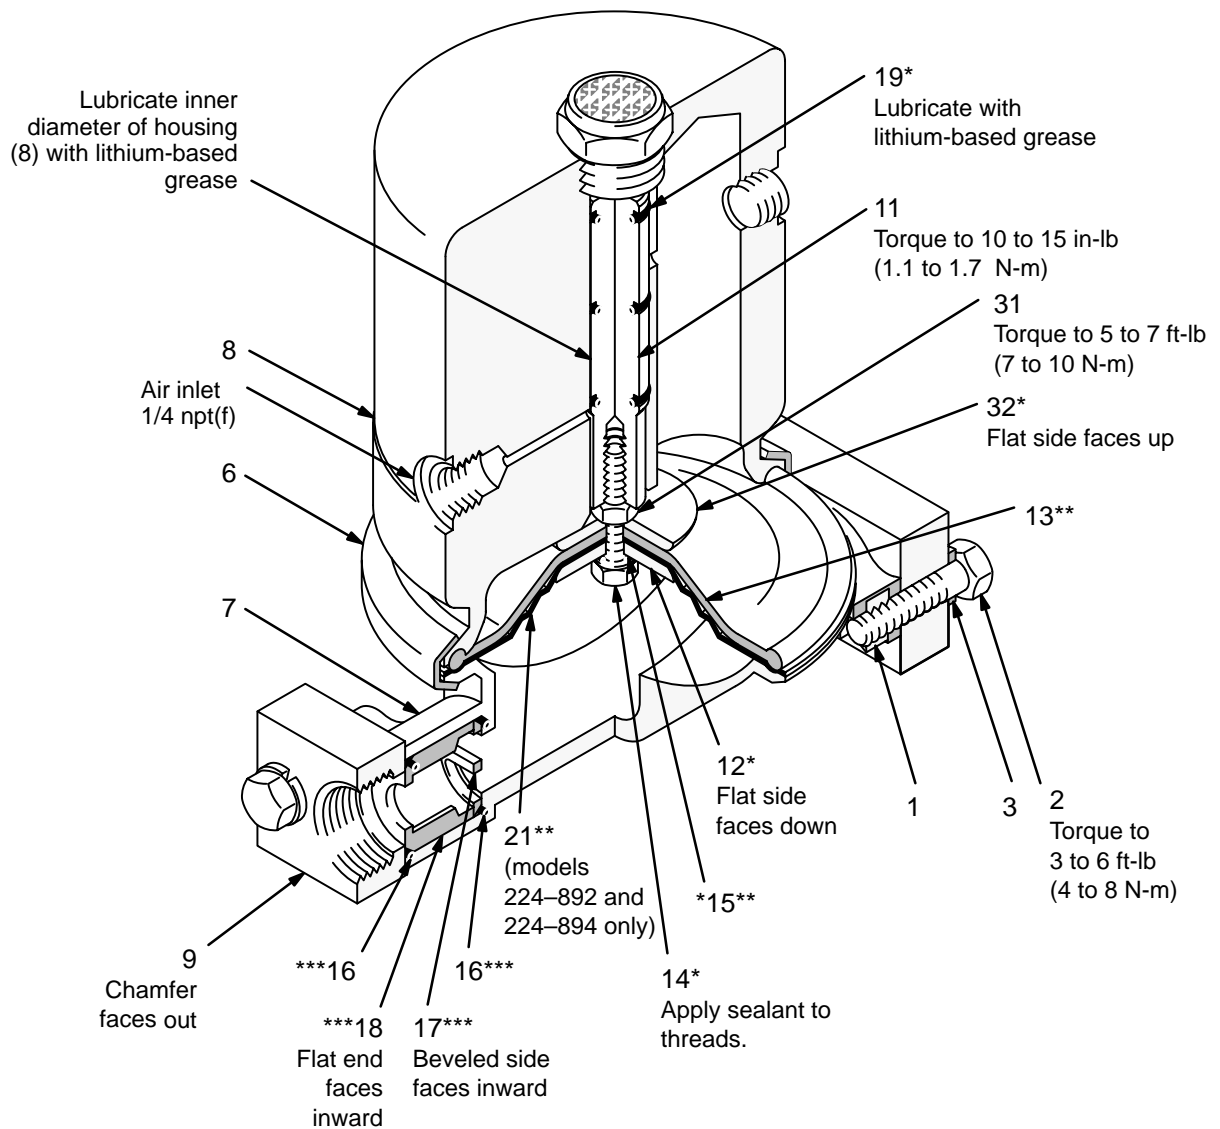

Fig. 2
3. Remove the v-clamp (6). See the **Parts Drawing** on page 12.
4. Separate the housing (8) from the cover (7) to expose the diaphragm and shaft assembly. Pull the diaphragm and shaft out of the housing. See Fig. 2.
5. Remove the three o-rings (19) from the shaft (11).
7. Lubricate the inner diameter of the housing (8) with lithium-based grease. Slide the shaft and diaphragm assembly into the housing (8). Place the cover (7) on the housing (8).
8. Position the clamp (6) around the housing (8) and cover (7). Apply thread lubricant to the threads of the v-clamp, secure with the nuts, and torque to 6 to 10 ft-lb (1.4 to 13.6 N.m). See the **Parts Drawing** on page 12.
5. Hold the bolt (14) steady with a wrench. Wrap a rag around the shaft (11) to protect it, then unscrew the shaft from the bolt using locking pliers. Remove the nut (31), upper diaphragm plate (32\*), diaphragm (13), PTFE diaphragm (*Models 224–892 and 224–894 only*), lower diaphragm plate (12), and o-ring (15) from the bolt. Clean and inspect all parts for wear or damage.
3. Remove the bolts (2), lockwashers (3), and nuts (1) holding one manifold (9) to the cover (7). Repeat for the other side. See Fig. 2.
4. Pull the two o-rings (16), guide (18) and stop (17) out of the cover (7). Repeat for the other side. Clean and inspect all parts for wear or damage.
5. Push one o-ring (16\*\*\*) all the way into the cavity of the cover (7). Install the stop (17\*\*\*) with the beveled side facing inward. Install the guide (18\*\*) with the flat end facing inward, then install the second o-ring (16\*\*\*) around the outer edge of the guide. Repeat for the other side.
6. Install the manifold (9) on the cover (7) with the chamfer facing outward. Secure with the bolts (2), lockwashers (3), and nuts (1). Torque to 3 to 6 ft-lb (4 to 8 N.m). Repeat for the other side.